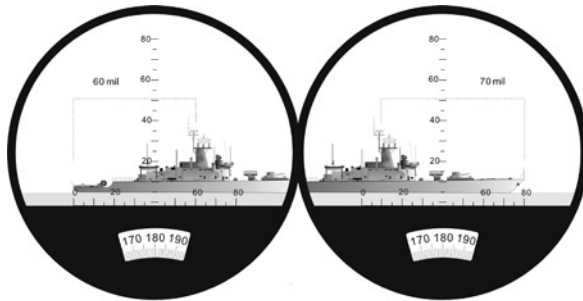

Figure 11. Measuring of Big View Angle
B. When the Horizontal View Angle is bigger than the horizontal scale range (-50~+50 mils), an vertical line splits(for example: mast, chimney etc.) on the object can be selected to make the necessary estimated measurements in a step by step fashion. The sum of the value from each step is used to obtain the measured value. As shown in Figure 11, the azimuth of target (cruiser) is 130 mils (60+70=130).